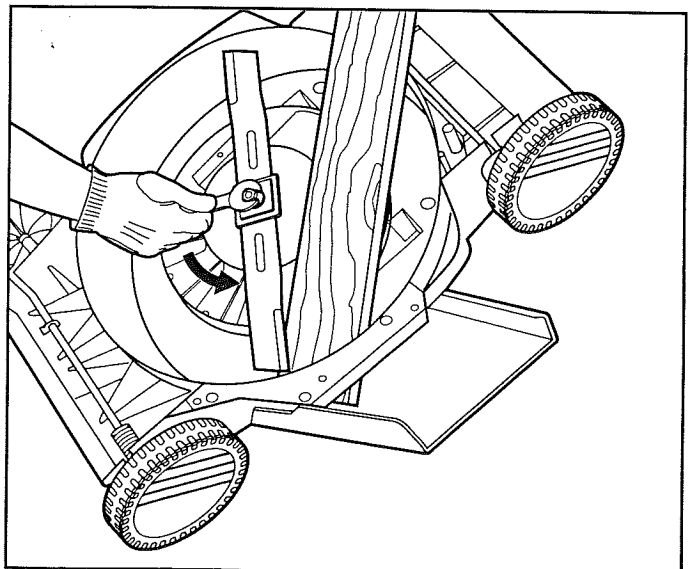

FIGURE 16
- Wear gloves. Position wood and remove nut as shown in Figure 16.